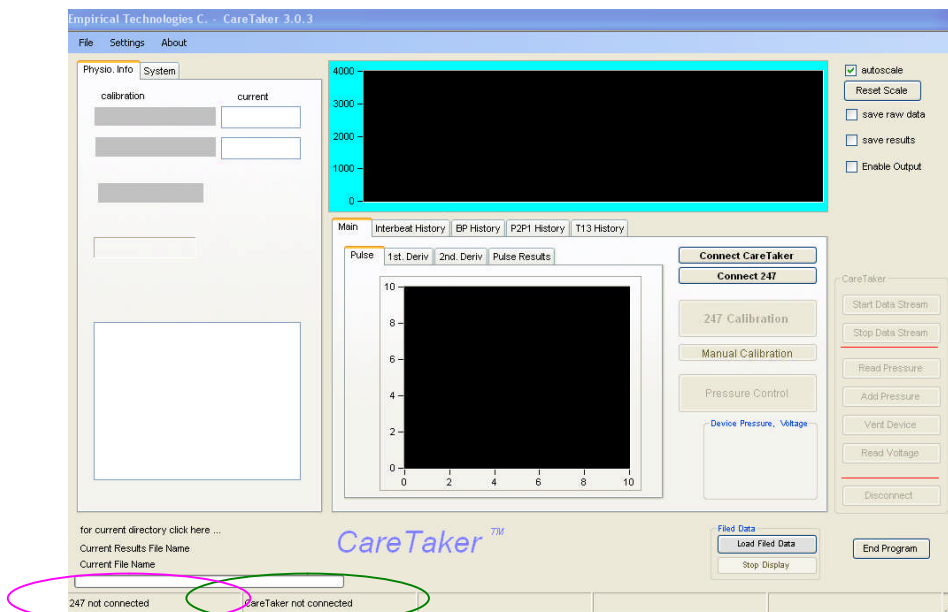

Figure 11: CareTaker GUI w/ both CareTaker & 247 (if included) connected
- If a message “CareTaker Connected” appears in the second-to-left corner (**Figure 11, green circle**). (and the buttons under “Device Communications” become enabled) the program has connected with the CareTaker.
- If a message “SunTech 247 Connected” appears in the bottom left corner (**Figure 11, pink circle**). (and the button “247 Blood Pressure Calibration” becomes enabled) the program has connected with the 247.